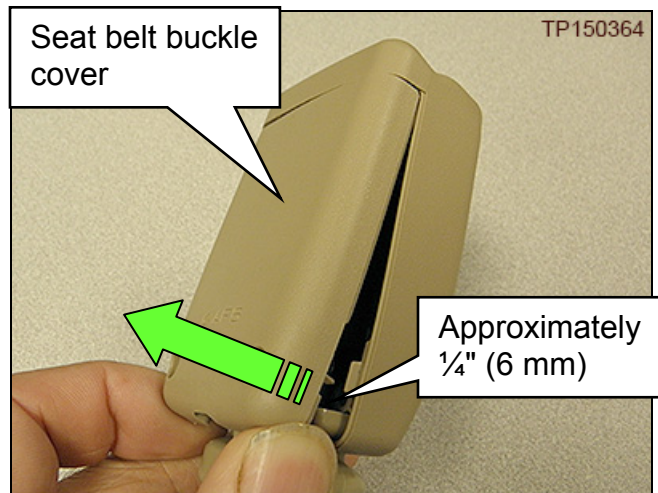

Figure 3
- a. Gently pull the "seat belt buckle cover" (buckle cover) away from the bottom of the "seat belt buckle" (buckle); approximately 1/4" (6 mm) (Figure 3).